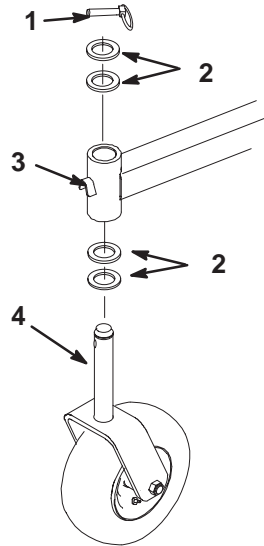

Figure 59
2. Remove the locking pin and spacer(s) from the top of the castor wheel fork (Fig. 59).
6. Inspect the castor wheel fork for wear and replace if necessary (Fig. 59).
7. Slide the castor wheel fork through the bushings in the mounting tube. Replace the spacer(s) onto the fork and secure with the retaining ring (Fig. 59).